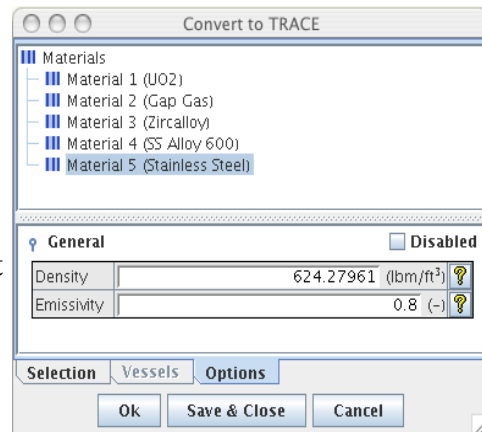

Figure 5: Conversion Options
10. Notice that the **Options** tab is enabled. This indicates that one or more of the component converter objects has properties that may be modified by the user in order to customize the conversion. Select the **Options** tab at the bottom of the dialog. This selects the Conversion Options panel, shown in Figure 5.